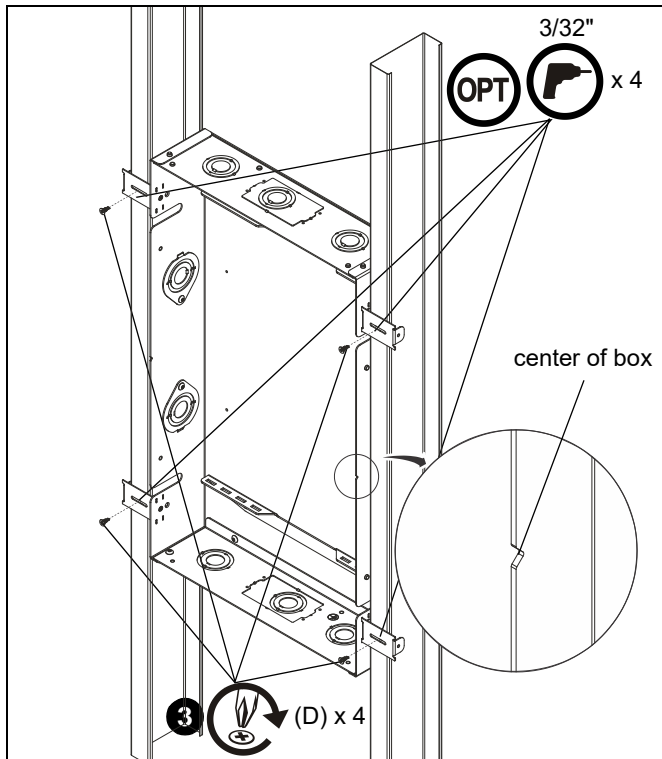

Figure 4
3. Use four #6 x 3/8" Phillips tapping screws (D) to secure four stud tabs (B) to studs at desired mounting height for first in-wall box (A). (See Figure 4)
NOTE: Four 3/32" pilot holes may be drilled into studs prior to installation of screws if desired. (See Figure 4)